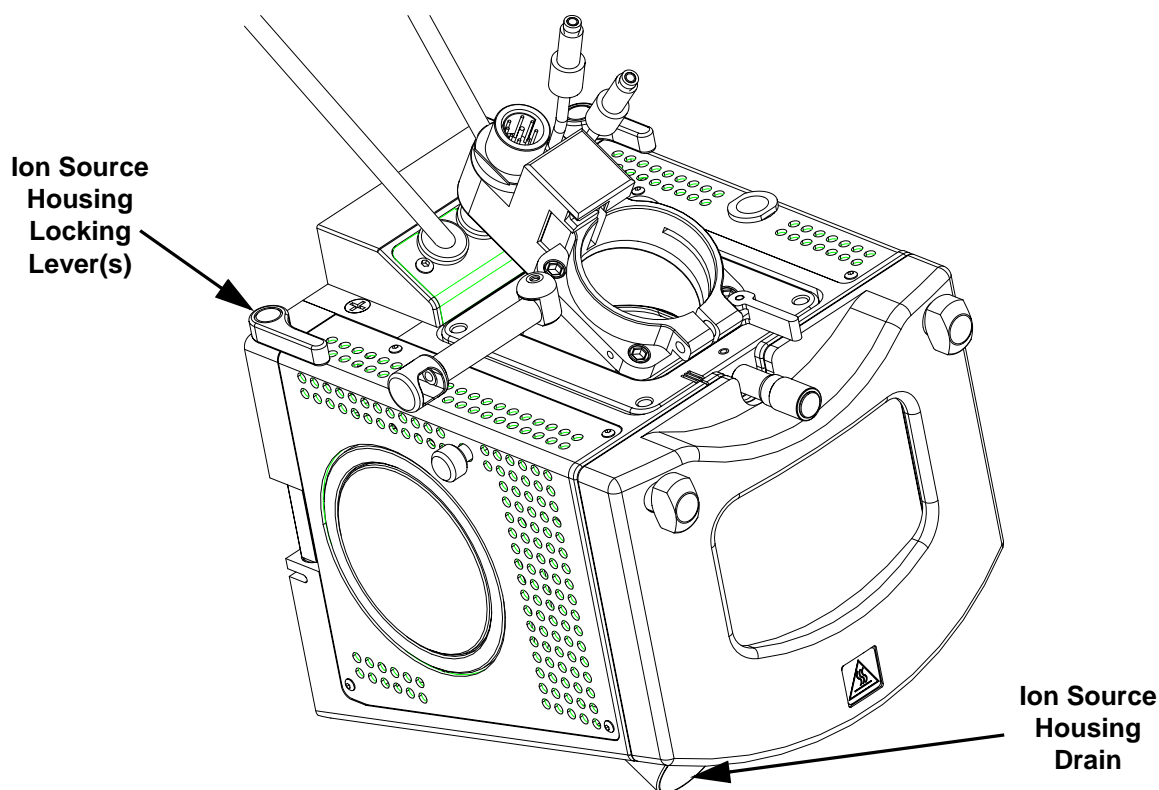

Figure 6-2. Ion Max ion source housing, detail of components
1. Remove the drain tube from the ion source housing drain. See Figure 6-2.